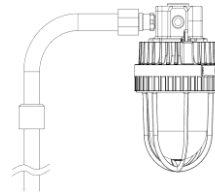

Figure 5
- ☞ The mounting types are for the use of bending tube mounting, 25° & 90° (Figure 5, 6). Tube mounting thread is M35.